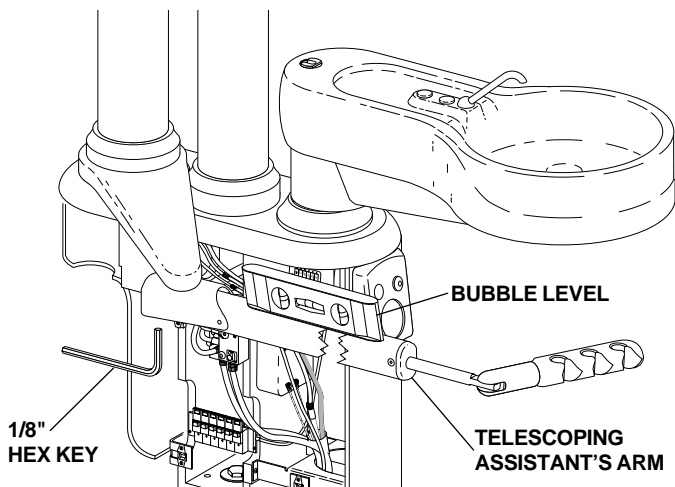

FIGURE 41
1. Place a bubble level of the top of the assistant's arm and check for level. To level the arm, use a 1/8" hex key to adjust the leveling setscrew on the underside of the arm (see Figure 41).